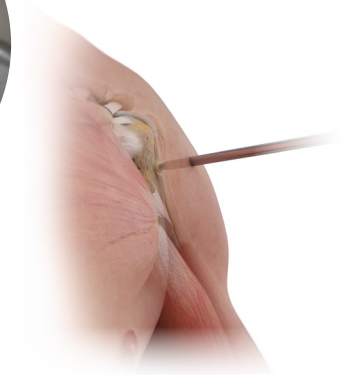

FIGURE 2
**STEP 2:** Enter subacromial space, perform standard bursectomy and create a lateral or high posterior-lateral viewing portal (Figure 2). Identify the bicipital groove anteriorly. Use a spinal needle to create a working portal perpendicular to the biceps tendon.